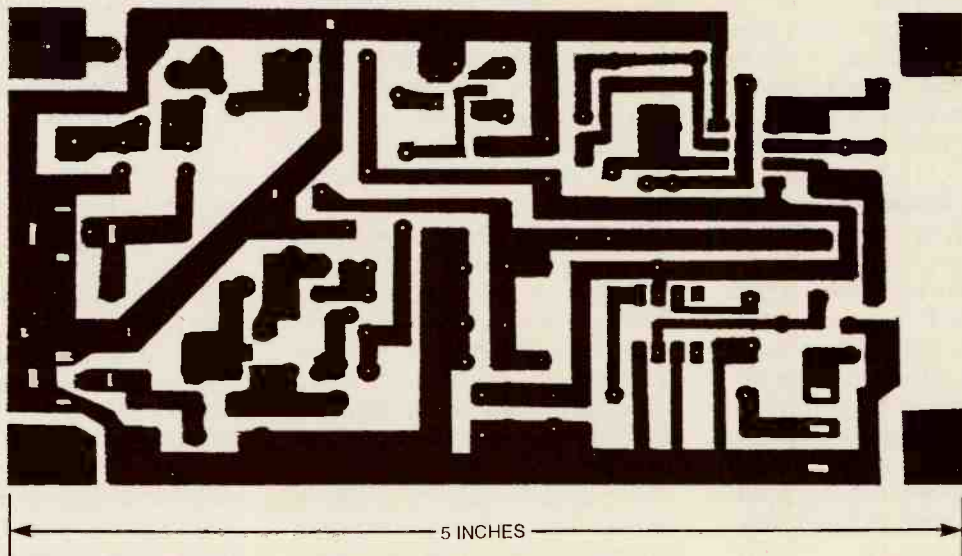

Fig. 2. The author's prototype was assembled on a small printed-circuit board, measuring about 5 by 2 1/2 inches, and is shown here on a 1:1 scale.
**The Circuit.** Figure 2 shows the circuit of the Novel Nightlight. It's basically a transformerless, half-wave power supply that puts out enough voltage to keep  $\sqrt{1}$ , the OA3/VR75 VR tube, glowing. Because the circuit has no transformer, it's absolutely necessary for safety that all conductors be enclosed in insulated material!
Fig. 2. The circuit for the Novel Nightlight is basically a transformerless, half-wave power supply that provides enough DC to light up V1, the voltage-regulator tube.
There are a few ways to adjust the brightness of the Novel Nightlight. First of all, you can change the value of R3. However, keep in mind that the current shouldn't exceed 40 mA (with the values shown in Fig. 2, it's about 31 mA). Also, other voltage-regulator tubes can be used instead, even though the OA3/VR75 was the brightest of the several that I tried. For a little variety, you could also add flashing neon bulbs with a capacitor and resistor for each, or an old mercury-vapor rectifier such as an 866.
**Assembly.** The WWV Receiver was assembled on a printed-circuit board, measuring about 5 by 2½ inches. A template of the author's printed-circuit layout is shown in Fig. 2. The parts-placement diagram for the author's layout is shown in Fig. 3. All the parts except power switch S1, battery B1, speaker SPKR1, and antenna ANT1 are located on the board.